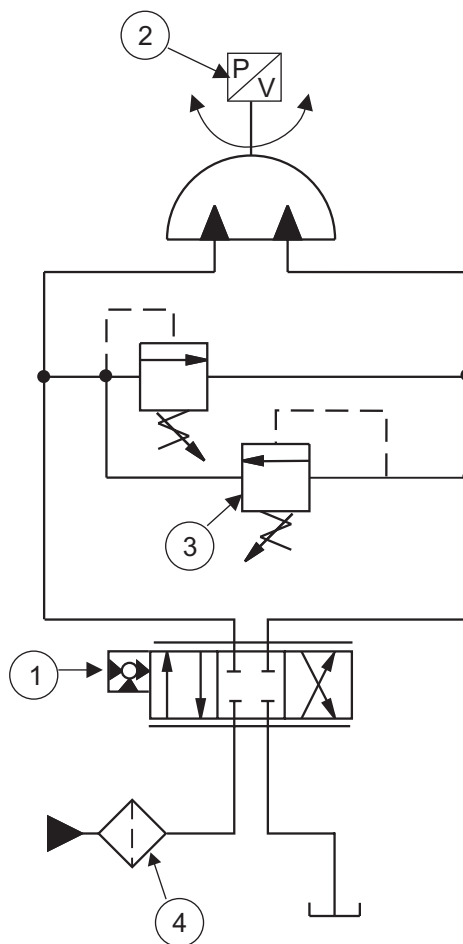

Figure 18 Electrohydraulic rotary actuator circuit
The use of electrohydraulic components for rotary actuator applications can provide greater system flexibility. Figure 18 is a representative circuit showing some possible applications of electrohydraulic valves. Proportional or servo control valves (1) can provide continuous position, velocity or acceleration control of loads, and “closing the loop” around a position feedback device and can provide even greater control and velocity profiles for overcenter or varying loads. Even more precise position control is possible with the use of vane actuators or anti-backlash devices on rack and pinion units.